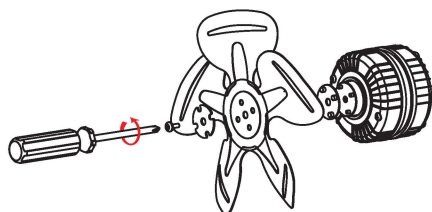

Fig 9-13
4. To remove the blade, loosen the bolt fixing the blade to the motor shaft. (Fig 9-13)